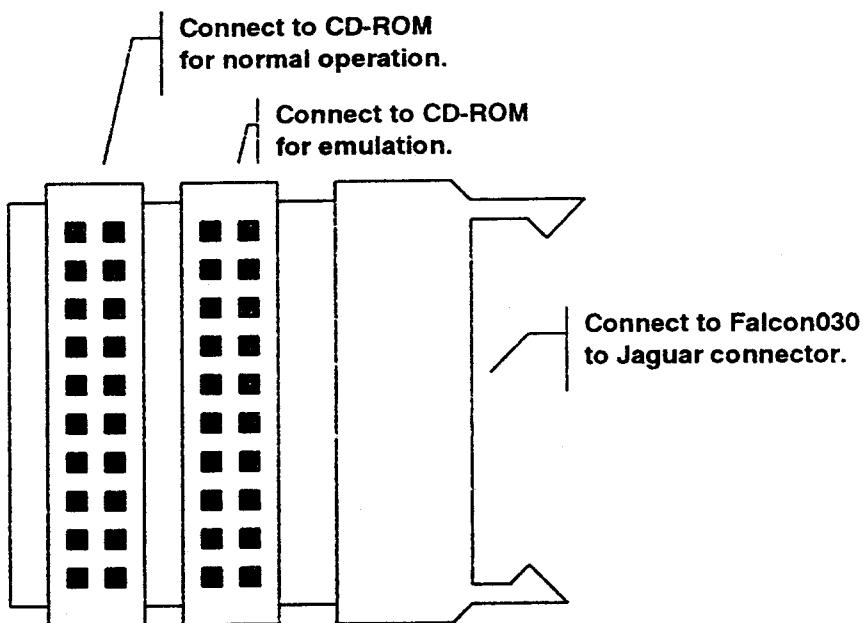

Figure 3-A – Three-Header Connector
6. Connect the CD-ROM and Falcon. The CD development system contains a simple PCB with three ribbon cable connectors as shown in *Figure 3-A*. All three connectors are keyed to prevent plugging them in incorrectly. The cable attached to the Falcon030 to Jaguar connector should always be plugged into the grey connector oriented differently from the two black connectors. The ribbon cable protruding from the CD-ROM unit should be connected to the black connector on the outside to use the CD-ROM unit normally and disable emulation. Connect the cable from the CD-ROM to the inside connector to emulate and disable the onboard mechanism.